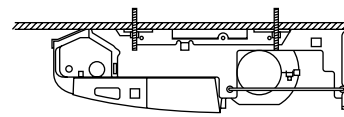

Fig. 3-65
- (c) Tighten the two hexagonal nuts on each suspension bolt to suspend the indoor unit as shown in Fig. 3-65.